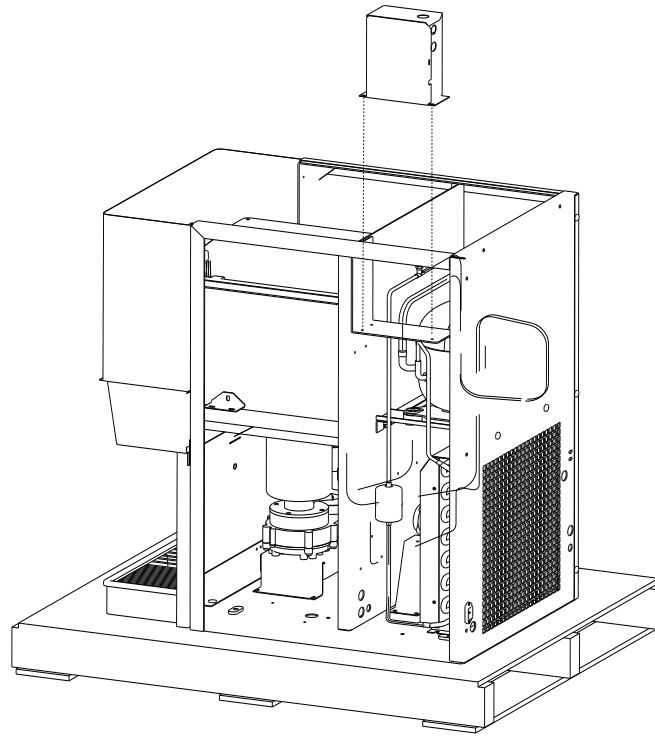

Figure 9. Installation of New Compressor E-Box
13. Install the new compressor E-Box on the mounting bracket. Refer Figure 9.